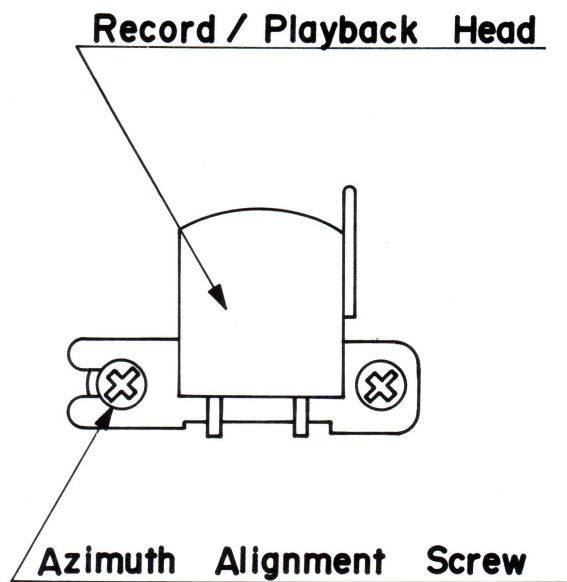

Fig. 2 Head Azimuth Adjustment Location
Connection should be made as above. Set the unit for recording. Record level controls (P 103, P 203) set at maximum. Adjust P 102 (L-ch), P 202 (R-ch) for 580 mV reading at TP 2 (L-ch, R-ch). (See figure 2.)
Connection should be made as for ADJUSTMENT 5. When ADJUSTMENT 5 has been completed (580 mV reading at TP a), adjust P 107 (L-ch), P 207 (R-ch) for +3 VU reading on level meters (L-ch, R-ch). (See figure 2.)
Make a recording (use blank tape) then playback what has been recorded and adjust P 105 (L-ch), P 205 (R-ch) for Fe 203 Tape, P 106 (L-ch), P 206 (R-ch) for Cr02 Tape so that the output at TP 2 has a value of 580 mV. (See figure 2.)
Set the unit for recording. Feed -68.5 dB (1 kHz) into the DIN input Left and Right channels. Adjust P 2 until the peak level indicator lights up. (See fig. 2).
Disconnect R 1 (or cut the foil pattern) so that the Bias OSC is stopped. Set the ALC switch to the "ON" position and keep the unit set at recording. Feed -50 dB (1 kHz) signal into the DIN input Left and Right channels. Adjust P 1 so that the value of the level meter on Left and Right channel will be the same. (See figure 2 ALC BALANCE).
3. To achieve the maximum reading on the AC VTVM adjust the azimuth alignment screw (fig. 2).